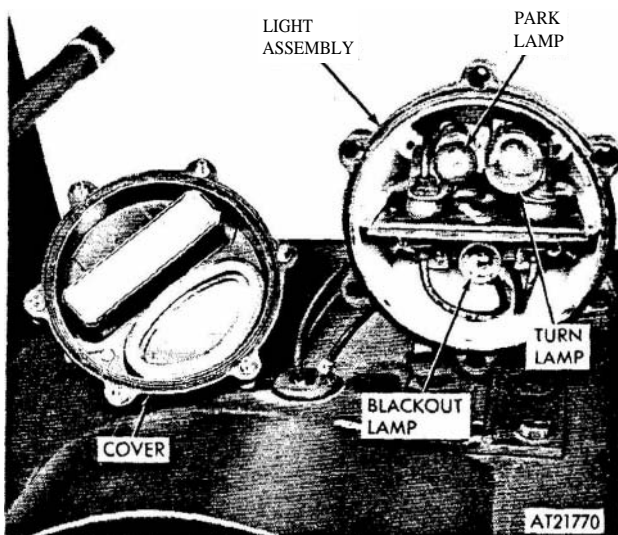

Figure 2-118. Turn, park, and blackout marker lamp replacement.
(1) Remove light assembly cover and gasket by removing six screws (fig 2-118).
(2) Remove defective lamp(s) by depressing and turning lamp.